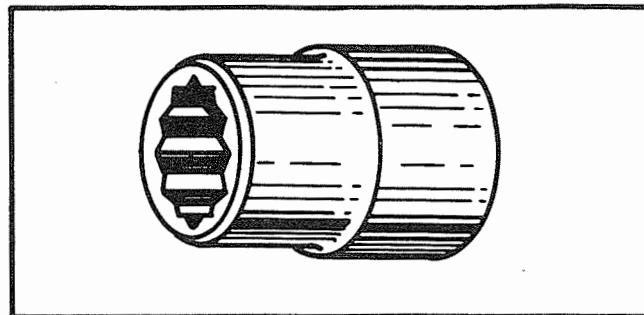

Figure 7-10. Oil Pressure Relief Valve Cap Wrench
a. Remove the oil pressure relief valve cap, using wrench 802139 (figure 7-10). Remove the packing ring.